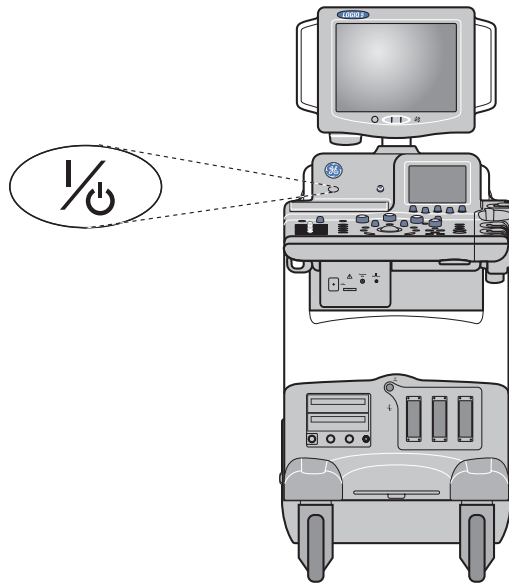

**Figure 3-8 Circuit Breaker**
- 2.) Switch OFF the Main Circuit Breaker at the rear of the system Refer to Figure 3-8 on page 3-11 .